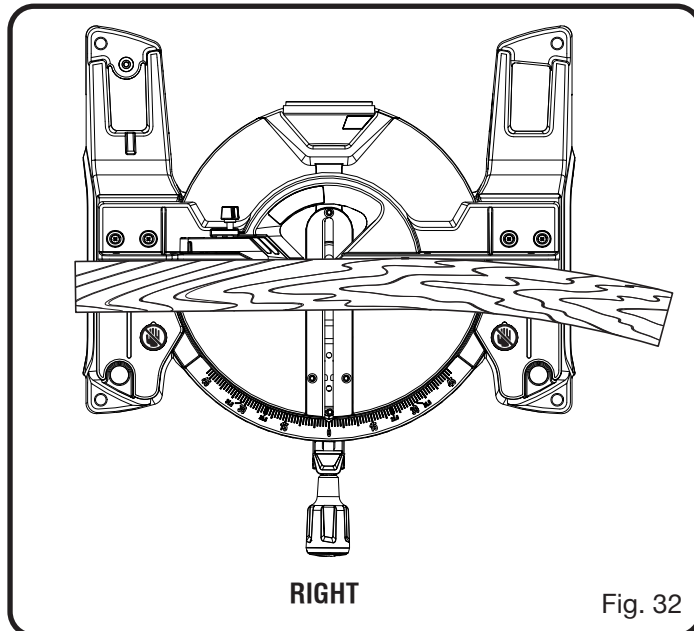

Fig. 32
- Place the workpiece flat on the miter table with one edge securely against the fence. If the board is warped, place the convex side against the fence. If the concave edge of a board is placed against the fence, the board could collapse on the blade at the end of the cut, jamming the blade. See Figures 32 - 33.
See Figures 32 - 33.
When cutting warped material, always make sure it is positioned on the miter table with the convex side against the fence as shown in figure 32.